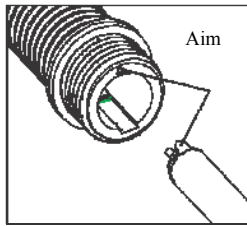

Figure 5
A. Aim and locate the salient point of the heating core with the sign ‘▲’ on the handle, then insert into the bottom. See Figure 5.